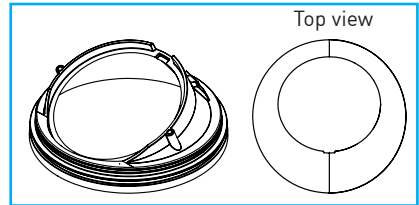
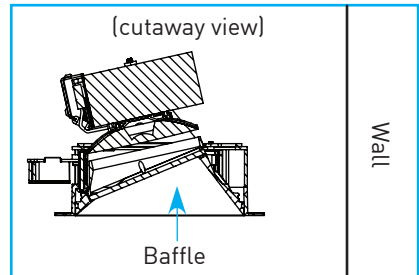

Fig.32
Fig.33
Wallwash Fittings: Baffle "Fig. 32" requires alignment with light source. To achieve proper wallwashing, ensure the baffle and fitting are oriented to direct light toward the desired wall "Fig. 33".
- Grasp baffle using soft gloves or with clean soft cloth and remove by pulling down or inserting small flat head screwdriver to wallwash baffles and carefully prying down *"Fig.32"*.